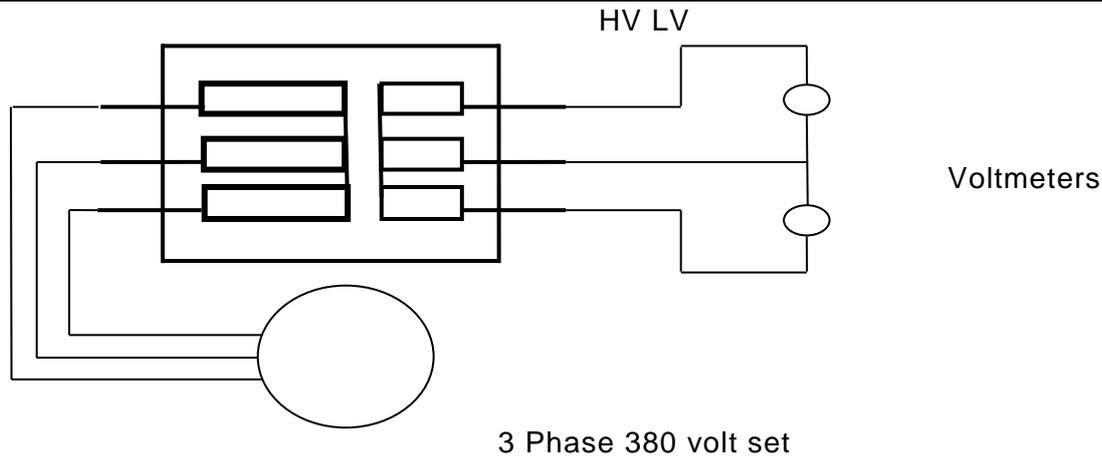

Figure 21.4: Connections for Ratio test on a 3 phase VT typical in distribution substations
- Connect 3 phase supply to HV winding with fuses removed as shown in Figure 21.4 and measure the voltage on the LV between phases and compare with calculated values.